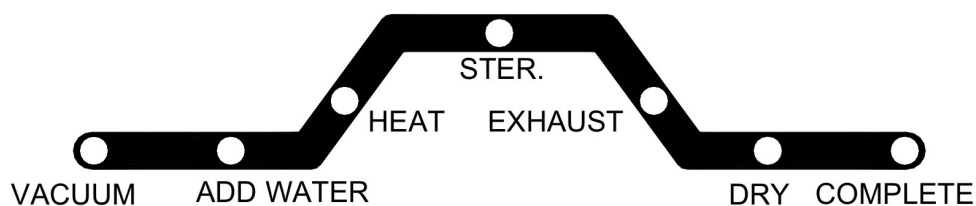

Figure 50
- D. Press the START Button  and the sterilizer will automatically run through the selected program. The current progress of the sterilization cycle is indicated by the illuminated LED on the Process Status Indicator. (Figure 50)